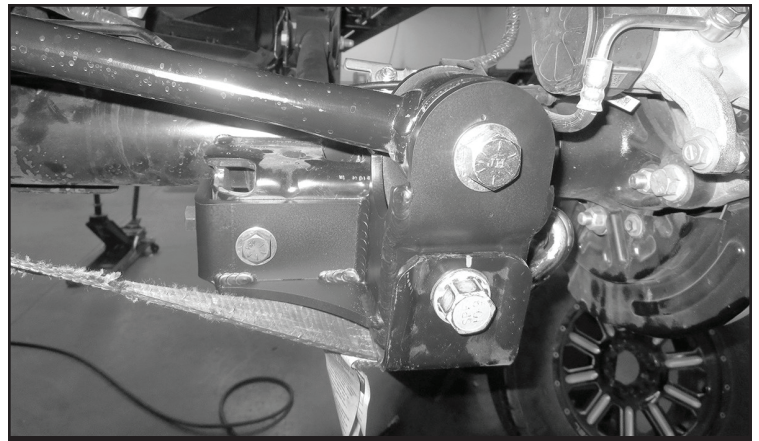

FIGURE 69 - STEP 62
62. Install the track bar to the new Fabtech bracket using the supplied 5/8" x 3-3/4" hardware. Torque to 170 ft-lbs. **SEE FIGURE 69**